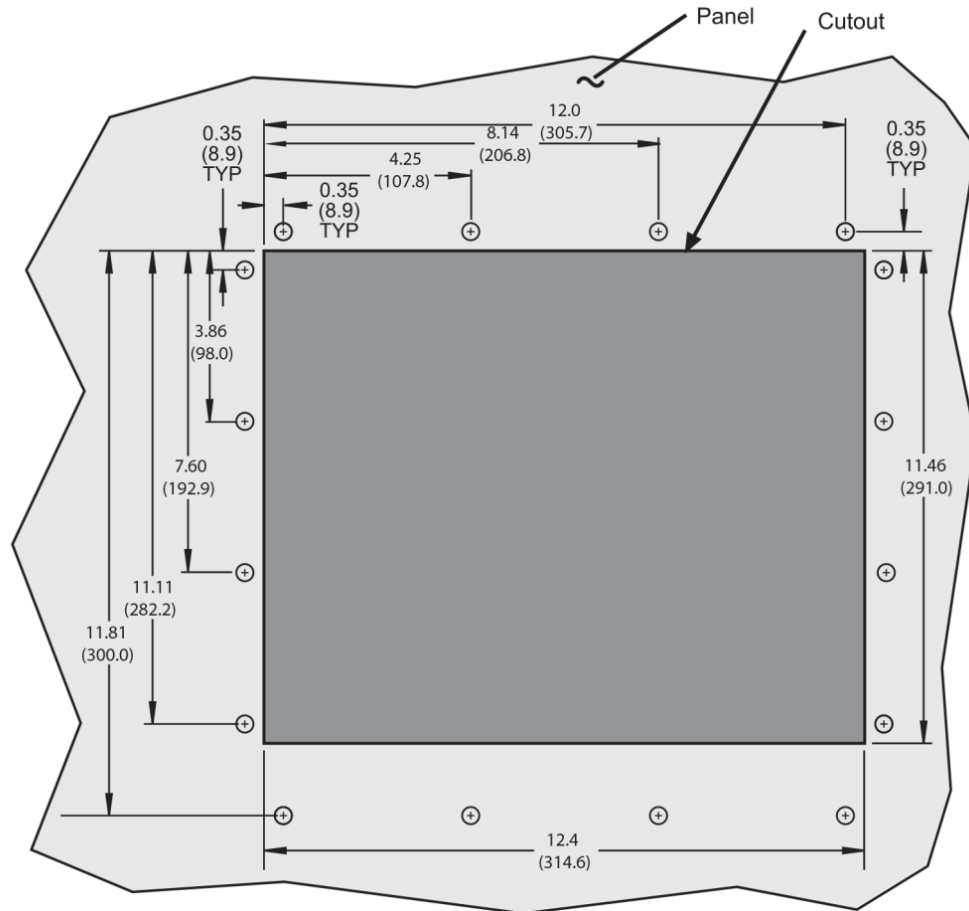
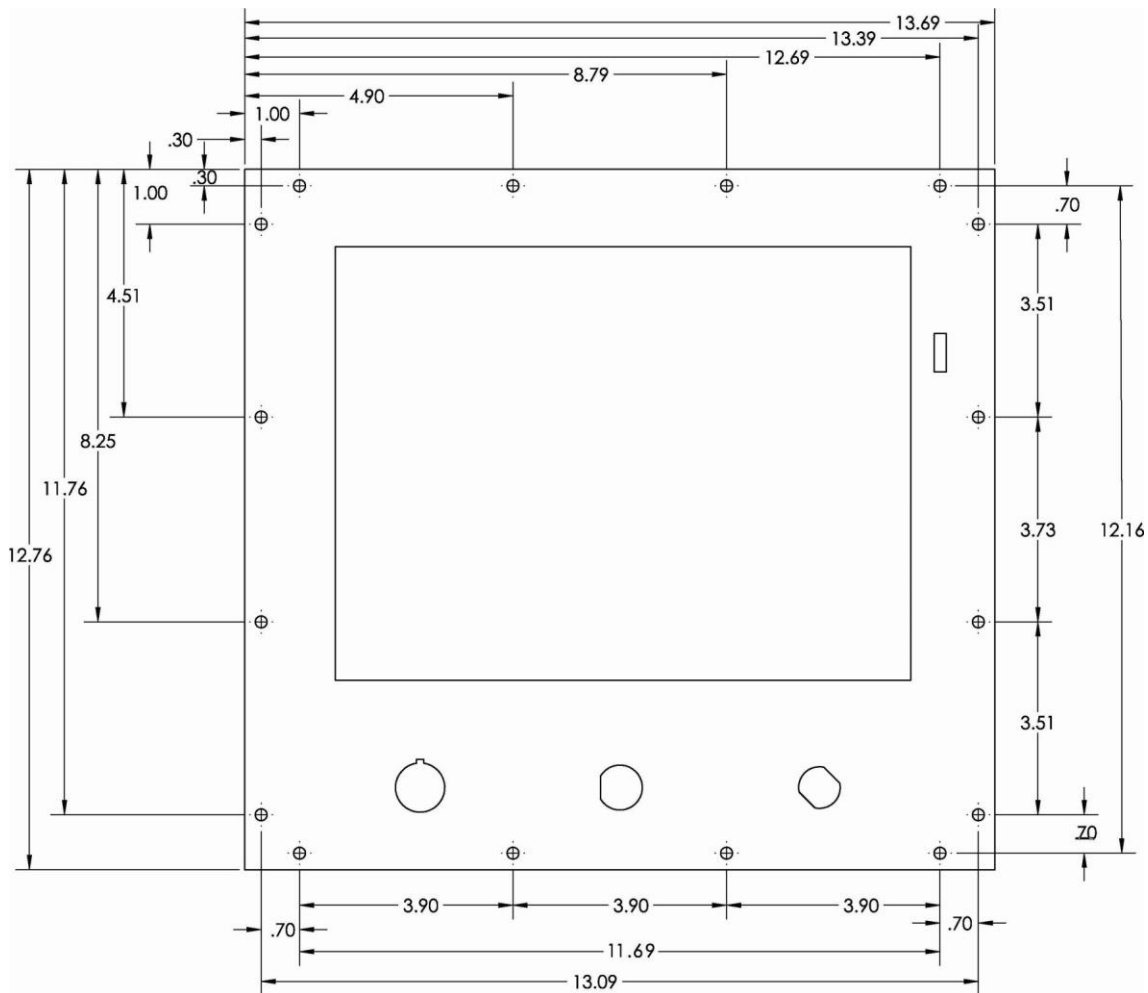

Figure 2-2. SmartPAC PRO Panel Mount Cutout Dimension
Figure 2-3. SmartPAC PRO Panel Mount Dimensions
2. Cut out a hole in your enclosure, and drill and tap twelve holes for #10-32 screws, referring to Figure 2-2, page 21, and Figure 2-3, page 22, for mounting and “cutout” dimensions.